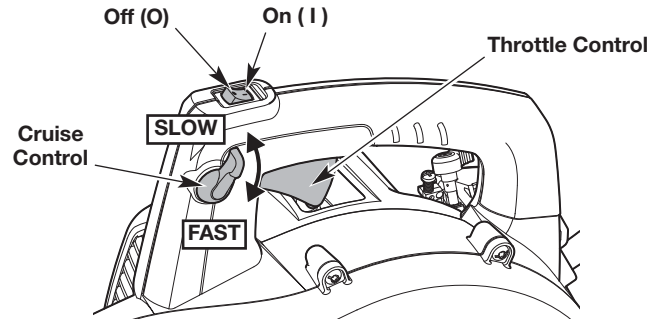

Fig. 3
- NOTE:** There is no need to turn the unit on. The On/Off switch is in the ON (1) position at all times (Fig. 3).
- Move the cruise control to the **SLOW** position (Fig. 3).
- NOTE:** Keep the cruise control in the **SLOW** position and **DO NOT** squeeze the throttle control until step 9 (Fig. 3).
- DO NOT** squeeze the throttle control. Idle the engine for 5 to 10 seconds. If the unit stops during this time, squeeze and hold the throttle control or move the cruise control to the **FAST** position (Fig. 3), then pull the starter rope in a controlled and steady motion until the unit starts.
- Squeeze and hold the throttle control or move the cruise control to the **FAST** position (Fig. 3). Allow the engine to warm up for 30 to 60 seconds.
- Press and hold the On/Off switch in the **OFF (O)** position until the engine comes to a complete stop (Fig. 3).
- Use the cruise control to make continuous operation easier (Fig. 3).